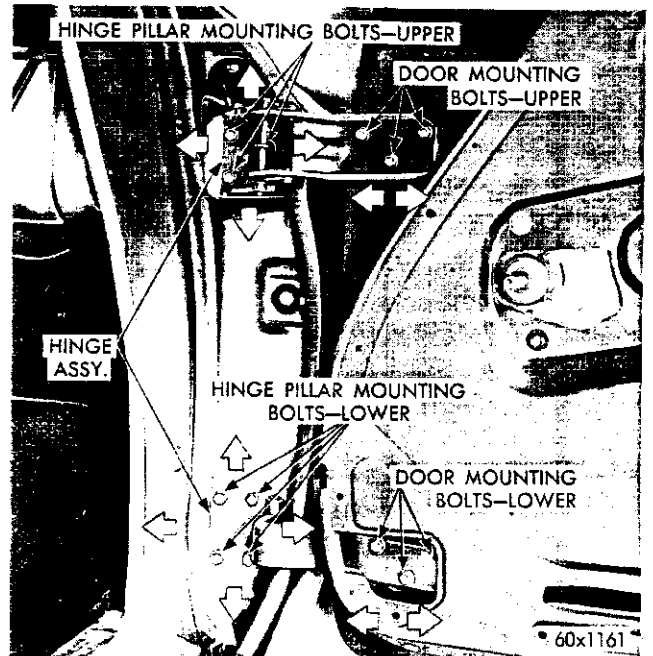

Fig. 11—Front Door Hinge Assembly (Chrysler)
(1) To raise or lower the door, remove the trim panel.
(2) Place a jack under the door as near the hinge as possible. (This will hold the weight of the door as the hinge bolts are loosened.)
(3) Scribe a line around the upper and lower hinge.
(4) Loosen the upper and lower hinge bolts, as shown in Figure 11.
(1) Moving the door forward or rearward is accomplished by loosening either the upper or lower hinge bolts. (See Fig. 11.)
(2) To move the upper portion of the door forward or back (trim panel removed), loosen the upper hinge bolts and either pull or push the upper portion of the door in the desired direction.
(3) Tighten hinge bolts and inspect the fit.
(4) When correct, reinstall the door trim panel.
(5) To remove the lower portion of the door forward or rearward (trim panel removed), loosen the lower hinge bolts and either pull or push the lower portion of the door in the desired direction.
(6) Tighten the hinge bolts and check the fit.
(7) When correct, reinstall the door trim panel.